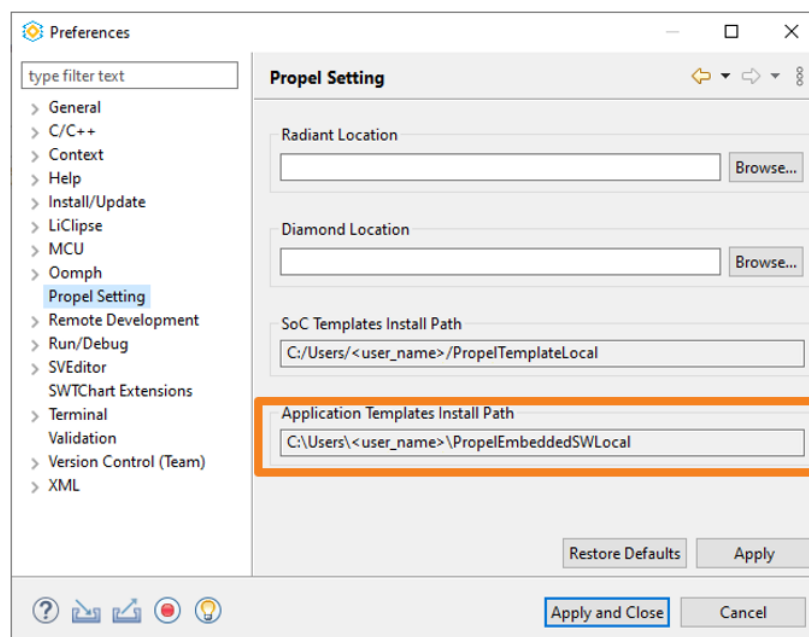

Figure 3.11. Lattice Propel Setting Page
6. Extract the zip archive file to the **Application Templates Install Path** in the user’s environment. Select **Window > Preferences > Propel Setting** to find this setting (Figure 3.11).